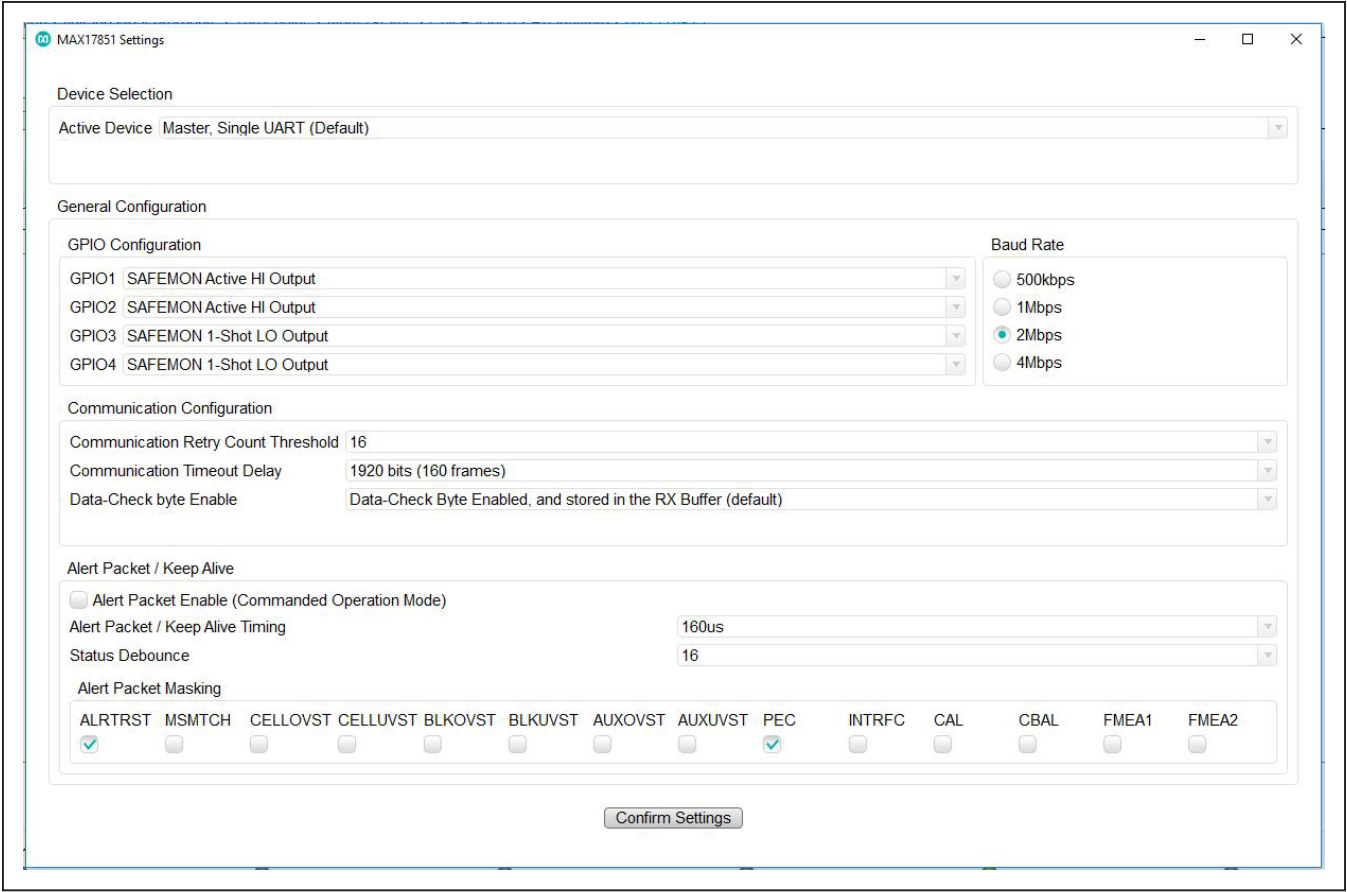

Figure 27. Settings panel
- 11) Open the **Settings** panel (Figure 27) by clicking the **Settings** button. Ensure that the **Active Device** drop-down menu displays **Master, Dual UART**. In the **GPIO Configuration** group box, set GPIOs 1 and 2 to **SAFEMON Active HI Output**. Set GPIO3 to **SAFEMON Active HI Output** and GPIO4 to **SAFEMON 1-Shot LO Output**. Click the **Confirm Settings** button at the bottom.
- 12) Open the **Settings** panel (Figure 27) by clicking the **Settings** button. Click on the **Active Device** drop-down menu and select **Slave, Dual UART**. In the **GPIO Configuration** group box, set GPIOs 1 and 2 to **SAFEMON Active HI Output**. Set GPIO3 to **SAFEMON 1-Shot LO Output** and GPIO4 to **SAFEMON Slave Input**. Click the **Confirm Settings** button at the bottom and close the panel.
In the **Commanded Operation** sub-tab, the **SWPOR** button on the upper-right side of the GUI, will completely reset the device, emulating a POR condition. The embedded UART communication Lock Step State Machine (LSSM) gets reset by pressing the **Clear LSSM** button. The **Settings** button opens an individual settings panel to manage the configuration of the MAX17851 (see Figure 27). In the **Settings** panel, the user can set control properties of the GPIO and communication features. In addition, the user may configure the MAX17851 Master and Slave separately by changing the **Active Device** in the **Device Selection** drop-down menu.